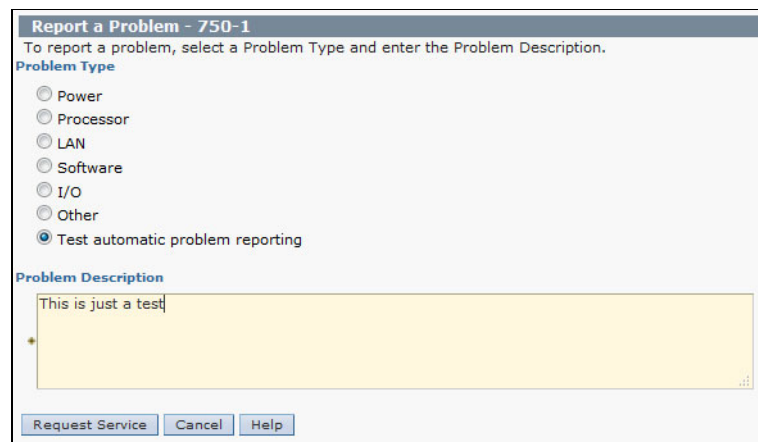

Figure 6-7 Create serviceable event window
3. In the next window (Figure 6-7), select a problem type from the Problem Type list, enter a brief description of the problem in the Problem Description input field, and click **Request Service**.